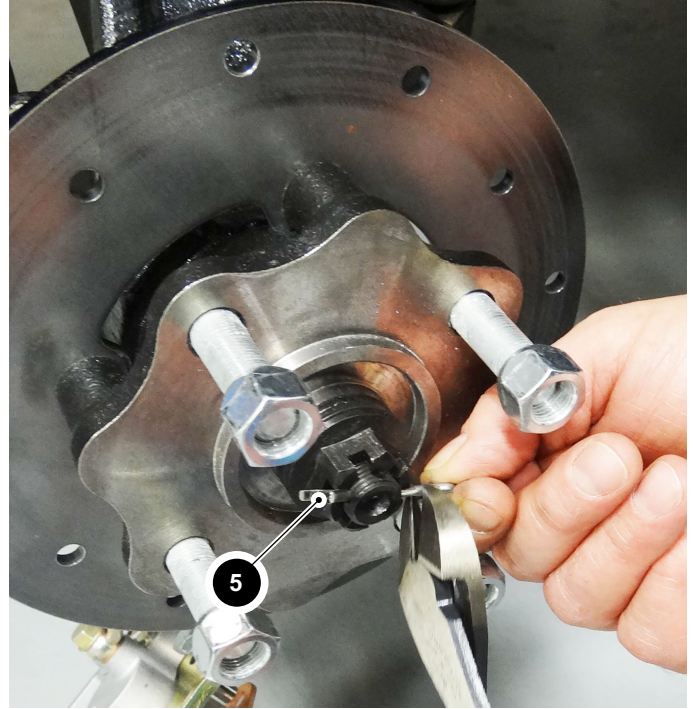
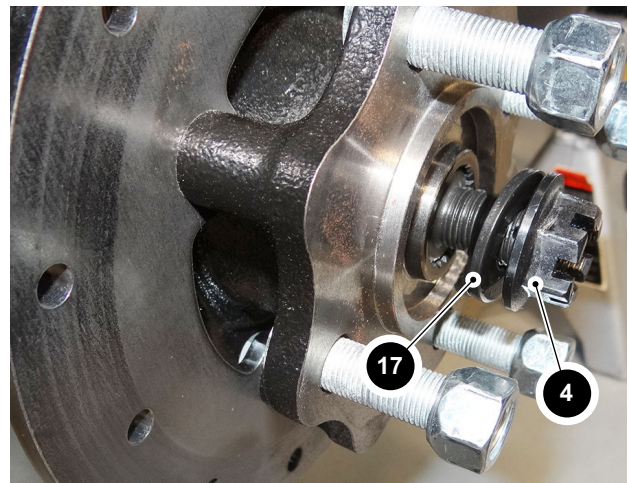

Fig. 2 Cotter Pin
Fig. 3 Axle Nut and Washer
4. At the center of the hub, remove the cotter pin (5), axle nut (4) and washer (17) from the axle. (Ref. Fig. 2)(Ref. Fig. 3)
9. Install a new cotter pin through the axle nut and axle. Bend the cotter pin (5) around the axle to secure (See Fig. 2).